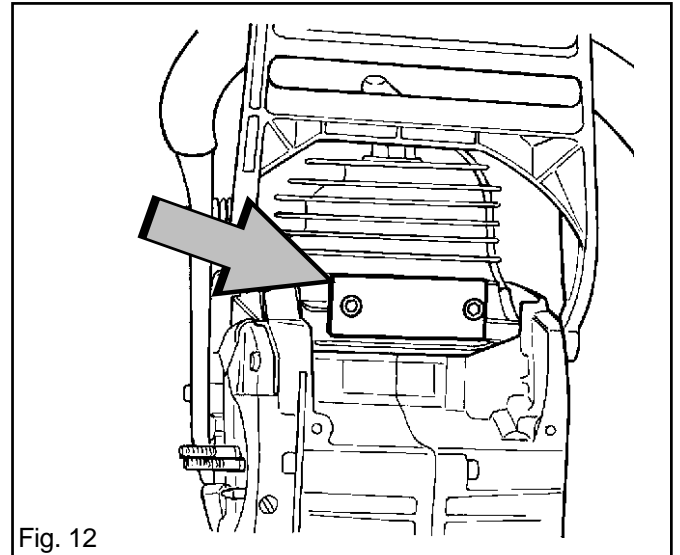

Fig. 12
1. Fit cover plates 502 54 05-01 and 502 71 39-01 to the inlet manifold and exhaust port. See figs. 12 and 13.
4. Locate the guide pegs in the clutch side crankcase half, grease and locate the gasket. See fig. 12.